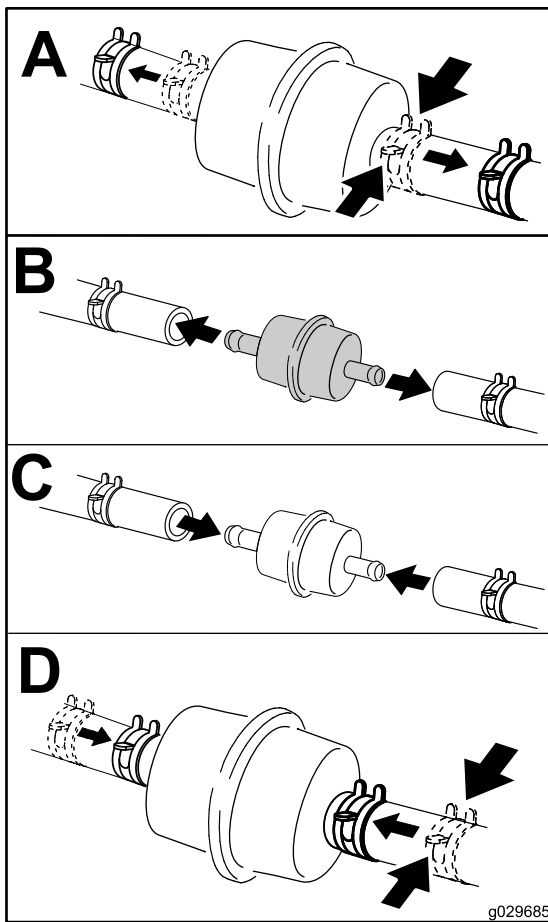

Figure 45
6. Place a clean container under the fuel filter and replace the fuel filter as shown in Figure 45.